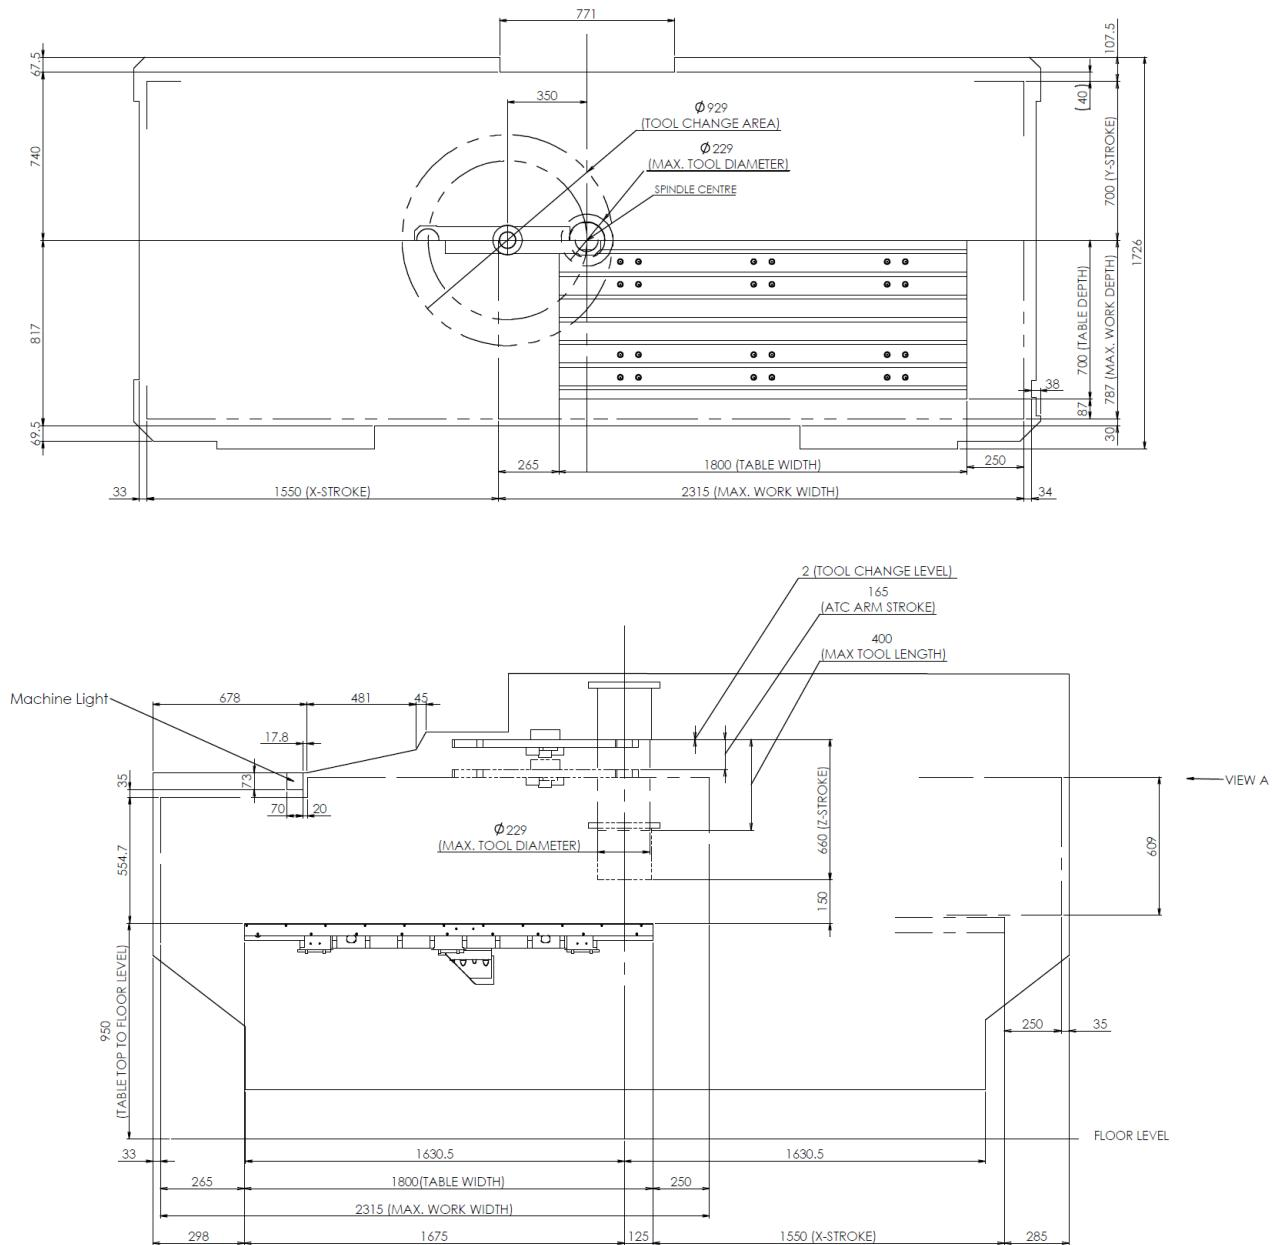
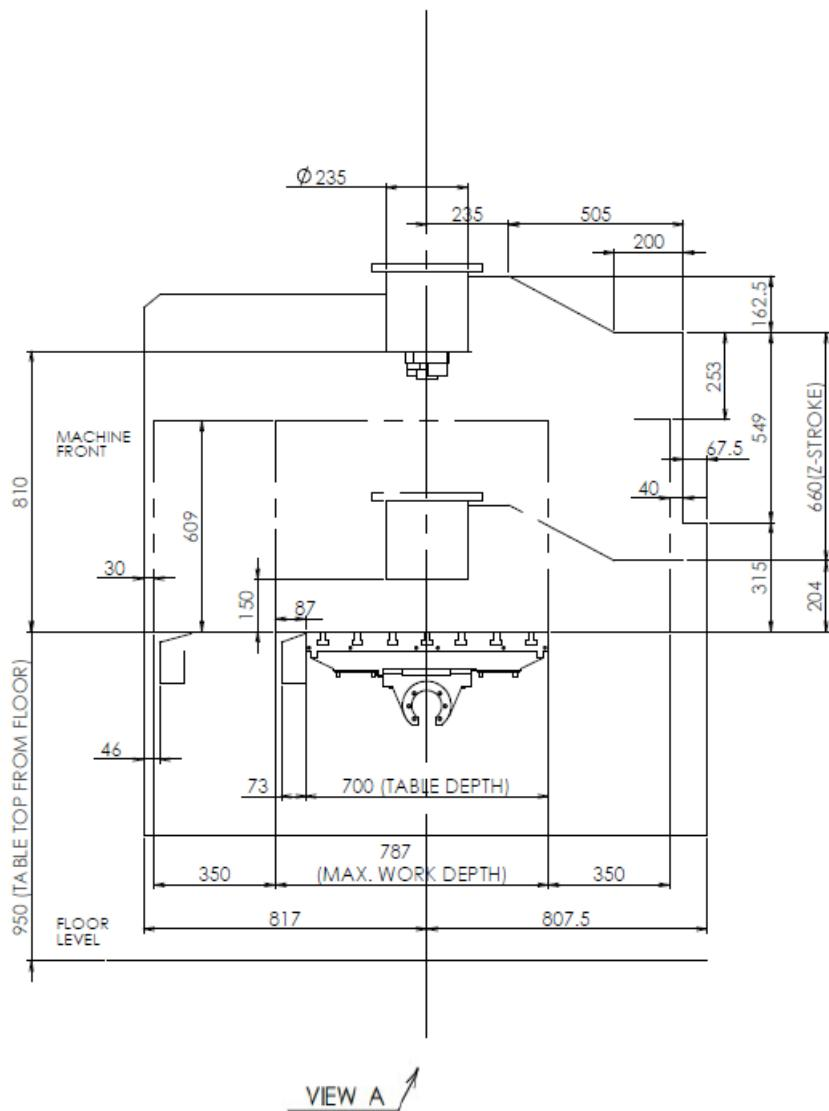

Figure 1.5 PS155 (SPD-14K) Machine Stroke Limits & Work Area 1
Figure 1.8 PS155 (SPD-10K Option) Machine Stroke Limits & Work Area 2
- When the X/Y/Z-axis is moved, the workpiece must be within the movement range. (Refer to Figure 1.5 to Figure 1.8.)
- A portion of the workpiece shape must be changed for exchanging tools that exceed the tool shape limitation (Refer to Figure 1.5 to Figure 1.8).